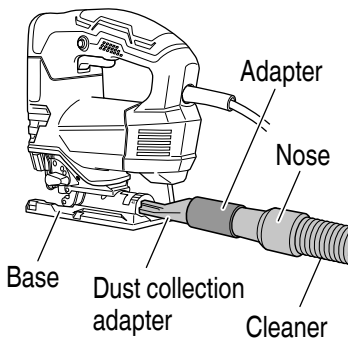

Fig. 21
- (3) Connect the dust collection adapter with adapter. (**Fig. 21**)
- (4) Connect the adapter with the nose of cleaner. (**Fig. 21**)